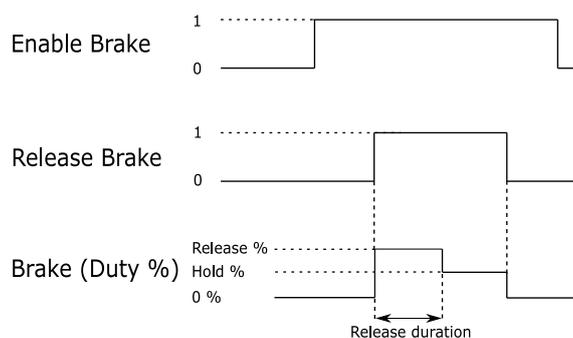

Figure 8: Mechanical Brake Settings
For setup, first provide the supply voltage (AP 194) and brake's resistance (195). Then provide the duty cycles that the brake has on on release (AP 189) and as hold (AP 190), while also providing release duration (AP 191). Setting AP 192 enables the brake to be used. Now, the brake can be released by setting AP 188. This causes the brake line to output a PWM signal with release duty cycle for the release duration. After the release duration, the PWM signal goes to holding duty cycle. See Figure 8.